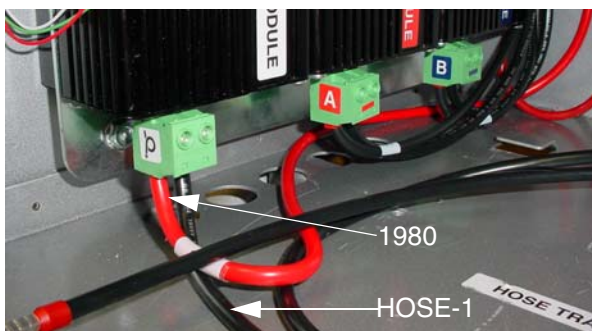

FIG. 19
2. Plug A and B green connectors of wire harness into bottom of corresponding heater modules on control panel. See FIG. 19.